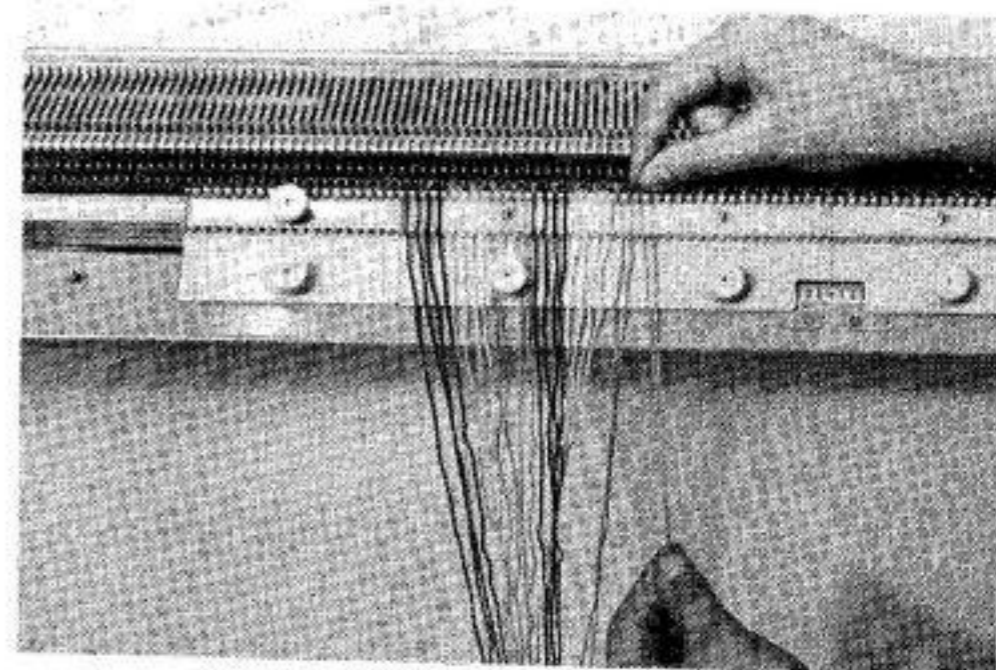

Fig. 13
- (6) Cut the contrasting colour yarns, to be used for the Warp, into lengths and each length should be approximately 5 times the length of the fabric to be produced, (but 10 times for Carpet Effect Knitting as per Section IV). Fold the lengths in half and place the centre fold (or loop) over the first needle in position "C" and pass the ends down through the slots in the V. P. K. unit at each side of the needle. Continue in this way until all needles in position "C" have a loop of contrasting colour in the hook. (See Fig.13.)